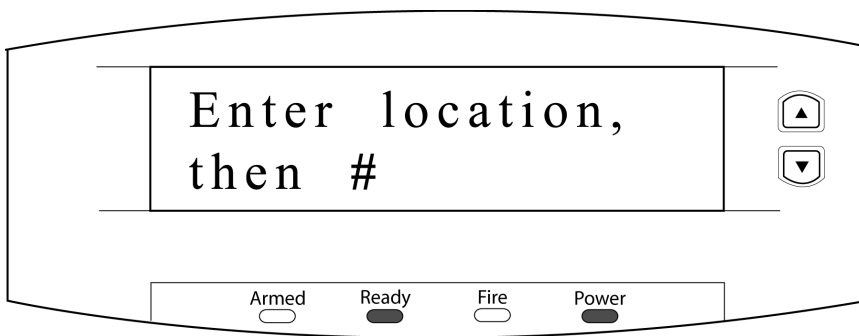

Figure 5: Alarm Panel - Enter Location
4. Select the 0 key followed by the # key. The alarm panel then prompts for the location (see Figure 5 on page 3). Each "location" on the alarm panel refers to a different task. Each location may then have a number of segments that each have their own purpose within the individual location.
2. Select the ***** key to save the selection. Since Location 207 only has one segment to configure, the LCD returns to the Alarm Panel - Enter Location screen (see Figure 5 where the LCD will show the last location entered in the lower right corner).